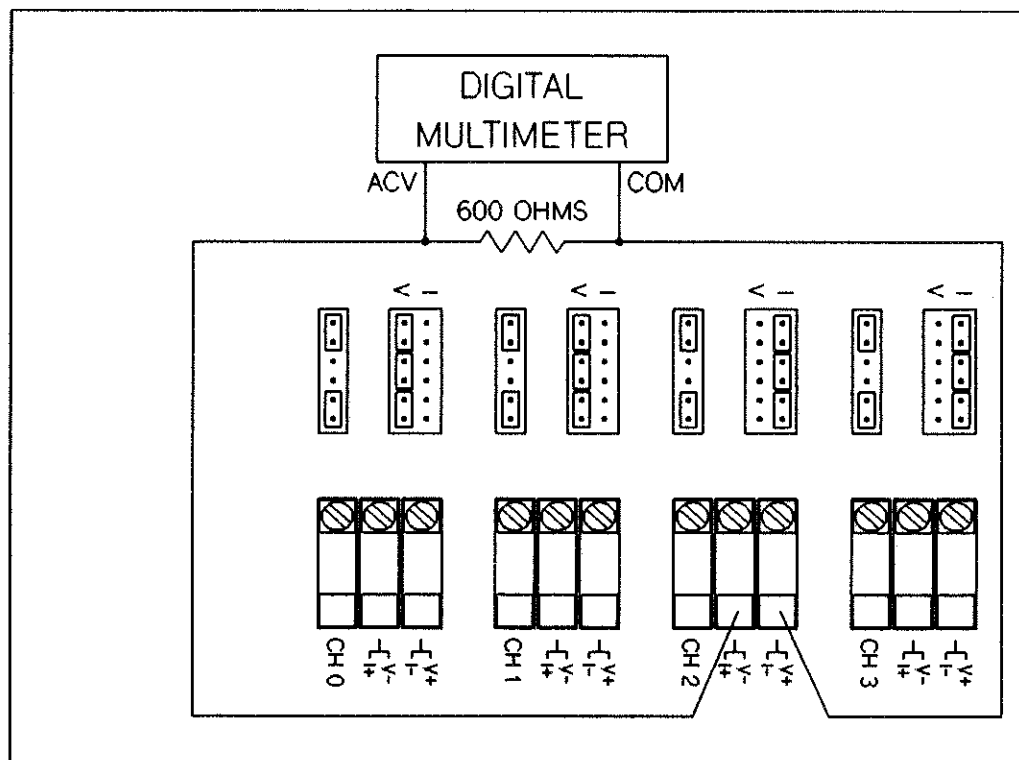

Figure 15-13 HP 44727A/B/C Current Noise Test
1. Set the multimeter to measure ac volts. On the test fixure, connect the multimeter ACV input to the I+ connection and connect the COM input to the I- connection of the channel to be tested. Connect a 600 to 630 ohm resistor across the channel's I+ and I- connections. The connections are shown in Figure 15-13.